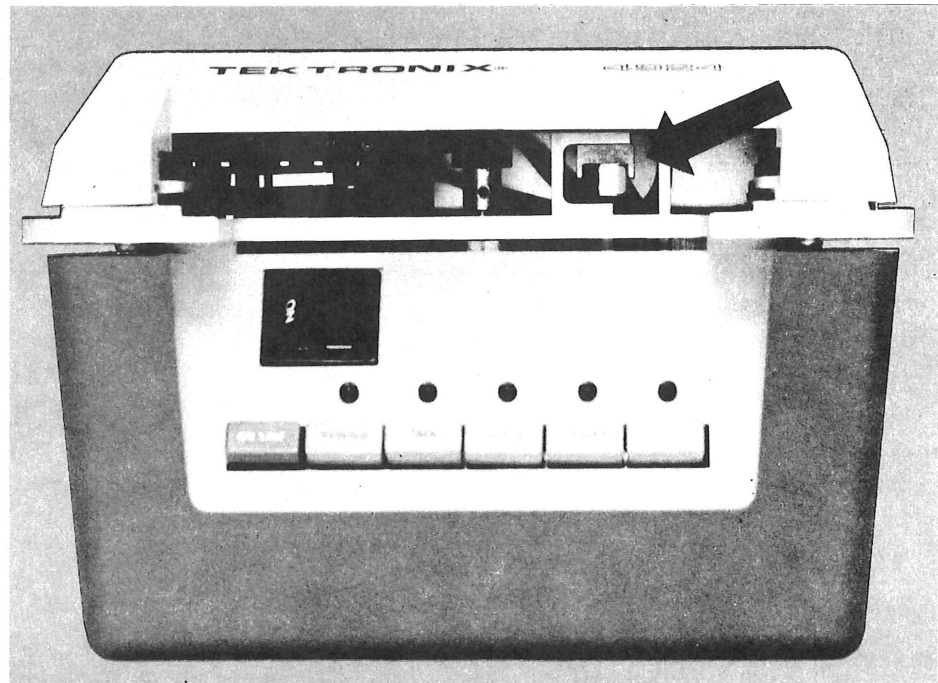

Fig. 3. Inspect tape head for wear or damage when cleaning.
2. Inspect the tape head by shining a small light, such as a penlight, at an angle across the head surface. Look for accumulated foreign matter or damage to the head (Fig. 3).